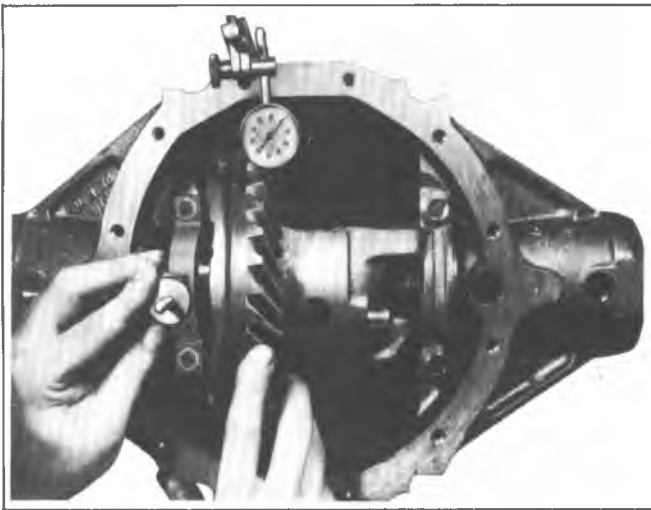

Fig. 6B--Installing Gaging Tool
4. With the ring gear tight against the pinion gear (.000" to .001" backlash) insert gaging Tool J-22779 between the left bearing cup and carrier housing as shown in figure 6B.